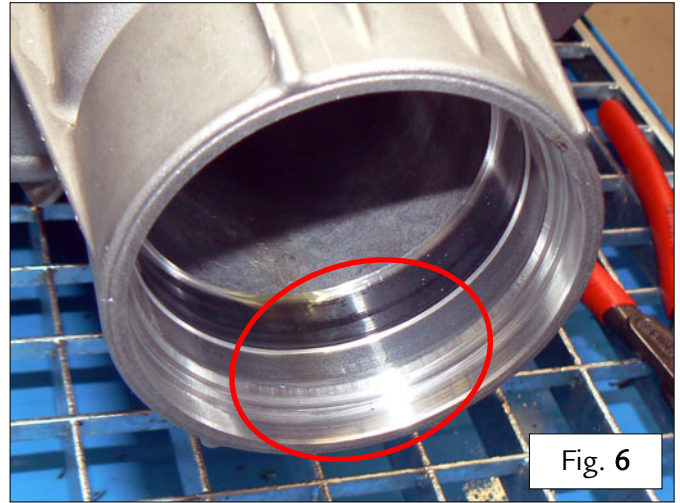

Fig. 6
- Use a lint-free cloth to carefully clean the contact seats of the front flange/front shaft on the connection box – Fig. 6.
- Fit the new E-DIFF pipe (3) in the relative seat on the gearbox, taking particular care not to bend or damage the pipe – Fig. 6.
- Fit the two new seals as indicated, then hand-tighten the new union (16) – Fig. 6.
- Repeat the procedure on the other end of the E-DIFF pipe (3) – Fig. 6.